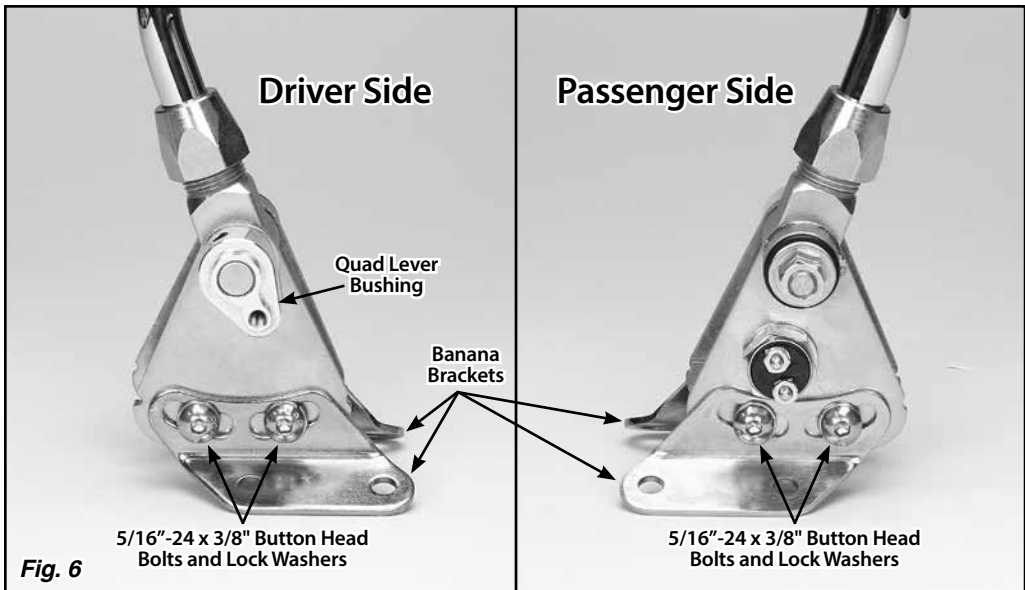

Fig. 6
Step 8: Install the banana brackets onto the shifter assembly using the 5/16"-24 x 3/8" button head bolts with lock washers. The curved, slotted holes in the banana brackets go against the shifter, and the bottom of both banana brackets should be pointing towards the rear. Fig. 6
Double check to make sure the bolts connecting the *driver* side banana bracket to the shifter assembly are tight. **Fig. 6**